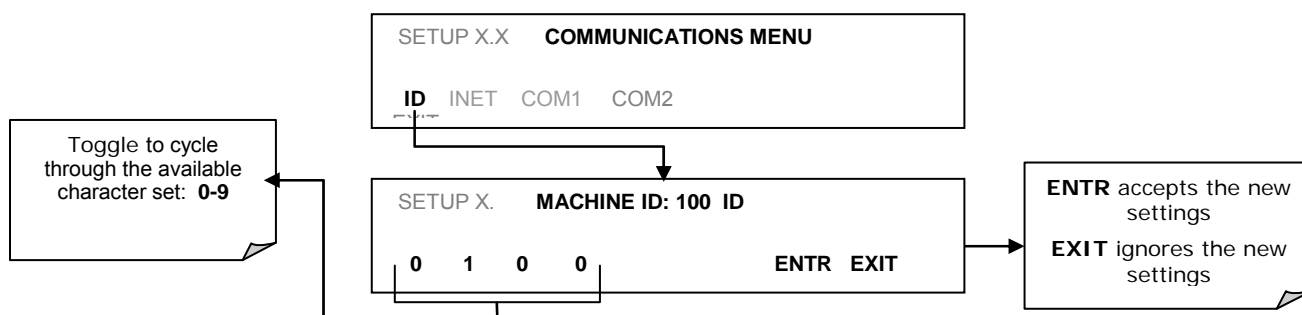

Figure 5-14: COMM – Machine ID
Press **ID** to display and/or change the Machine ID, which must be changed to a unique identifier (number) when more than one instrument of the same model is used in a multidrop configuration (0) or when applying MODBUS protocol (Section 6.6.1). The default ID is the same as the model number; for the Model T100, the ID is 0100. Press any button(s) in the MACHINE ID menu (Figure 5-14) until the Machine ID Parameter field displays the desired identifier.